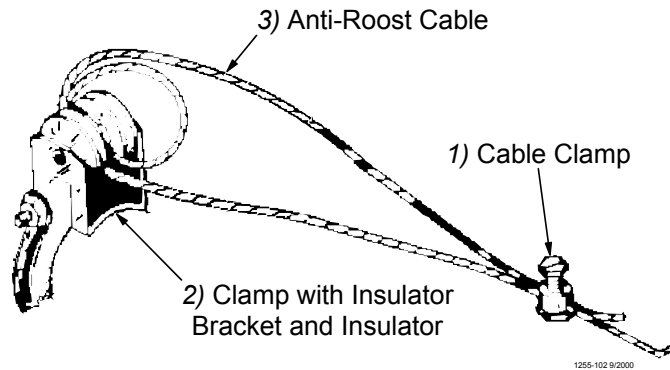

Figure 62. Anti-Roost Cable at the Hopper
2. Start at the hopper end of the line and form a loop around the anti-roost bracket. For best results, make a double loop around the anti-roost insulator in the center groove of the insulator and fasten with a 1/16" cable clamp as shown in **Figure 62**.